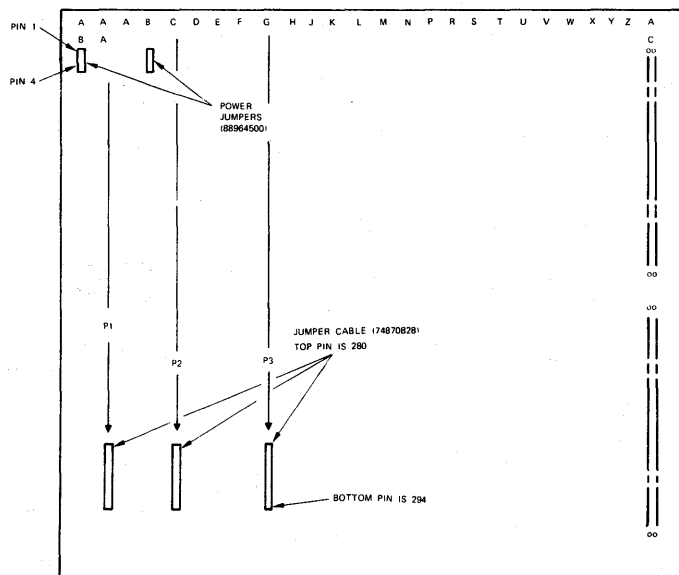

Figure 3-1. Jumper Cable Connectors
1. Install power jumper cable (figure 3-1) at rear of card cage.
2. Install jumper cable (figure 3-1) at rear of card cage.
1. Plug power jumper 88964500 into pins 1 through 4 of slot B. See figure 3-1.
2. If two couplers are to be installed, plug another power jumper 88964500 into pins 1 through 4 of slot AB (figure 3-1).